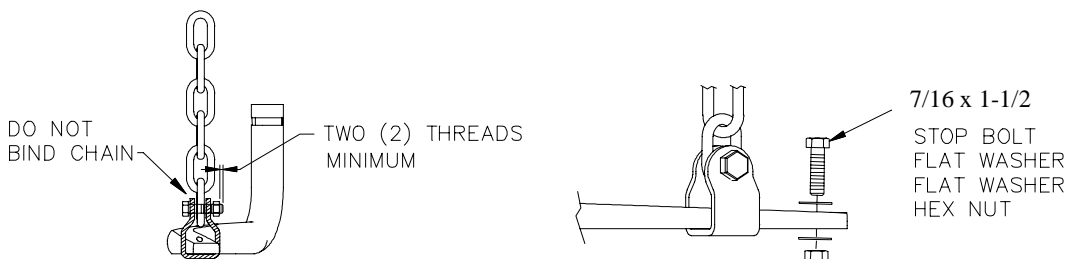

FIGURE 7
1. Attach chain (5F) to spring bar (3) using hanger bracket (5I), 3/8-16 X 1-1/4" hex bolt (5G) and locknut (5H) [See figure 3]. Allow 2 - 3 threads to protrude past locknut [See figure 7]. Chain must not bind.